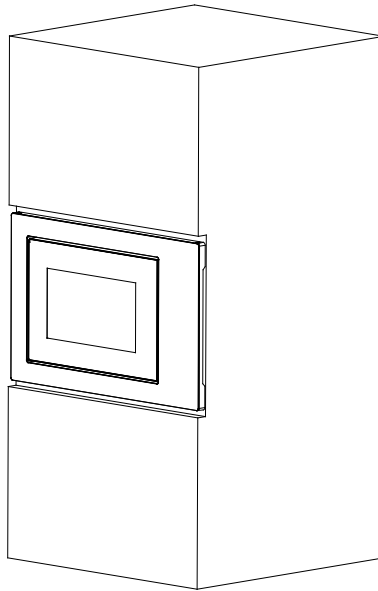

Fig.2
- b) Push the microwave oven till to the end. (Fig.2)